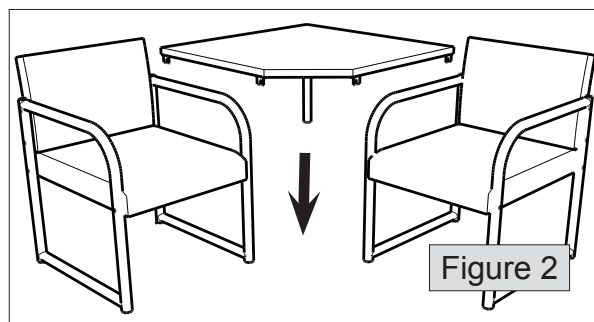

Figure 2
6. Position chairs about 2 feet apart, oriented as shown in figure 2.
8. Set tabletop between chairs, as shown in figure 2. The slotted brackets should slide onto the bolts from step 7.